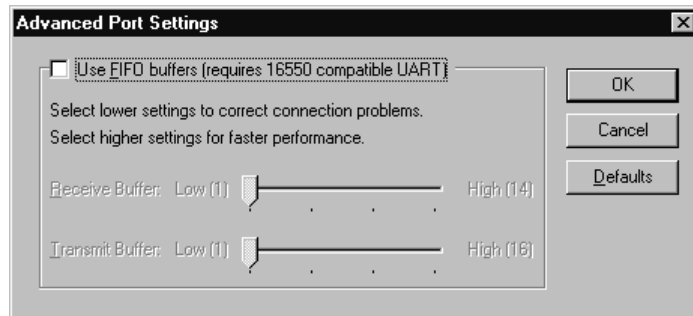

Figure 2-3. Advance Port Settings
6. In the Port Settings dialog box, ensure that the “Use FIFO Buffers” option is disabled. Then click OK. See Figure 2-3.